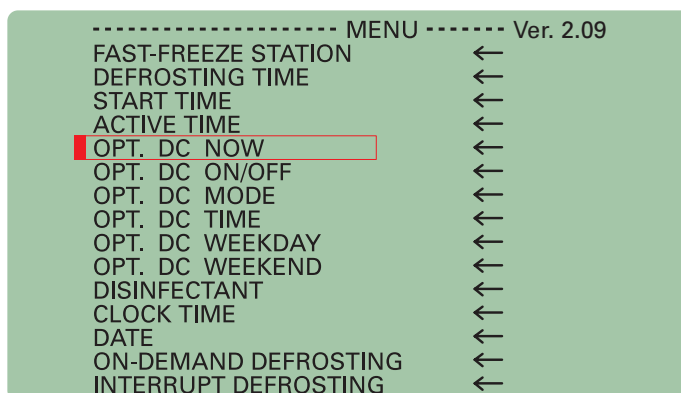

Figure 115. Starting the Cold D (Option DC).
- Next, use the arrow keys (Fig. 114.5 and 114.6) to select the “OPT. DC NOW” submenu from the list (Fig. 115).